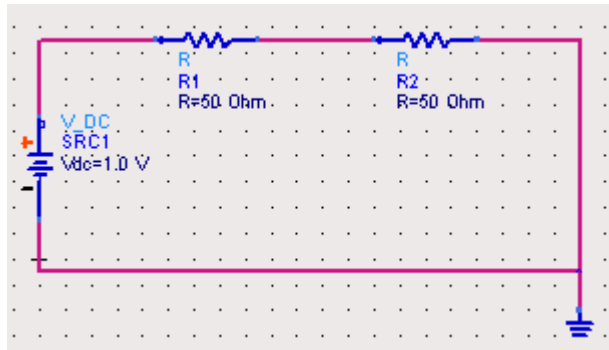

Figure 6: Completed circuit for DC simulation
- b. Need two “Lumped-Components: Resistor (R)” – should have already placed these in the previous step.
Figure 6 below shows the completed circuit. Once the components are placed, arrange the components as shown in the figure and then connect the components with wires as shown by pressing Ctrl-W or **Insert->Wire**. Note that each resistor that you place shows its part name (R), instance name (R1 or R2), and its nominal value (50 Ohm). Similarly, the DC voltage source shows its part name (V\_DC), instance name (SRC1), and its nominal value (1.0 V).